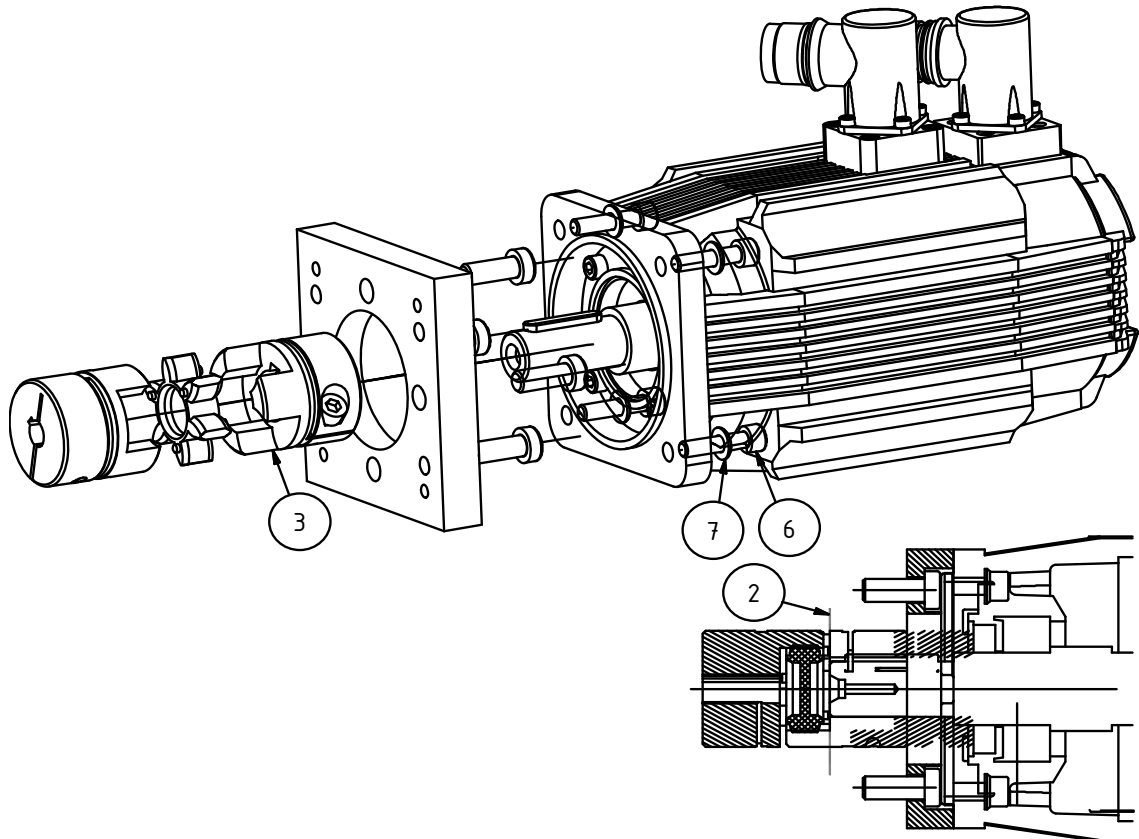

Figure 14: Motor /gear assembly ETH032 ... ETH080 inline
- ◆ Loosen screws (see Figure 14 Pos. 6).
- Loosen radial clamping screw of the coupling half (see Figure 14 Pos. 3).
- ◆ Equip screw with washer and tighten (please refer to Figure 14 Pos. 6, Pos. 7).